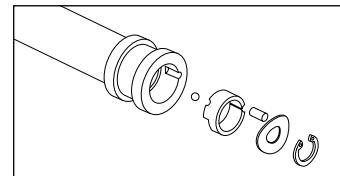

Fig. 3
- Carefully remove the index plate, wavy washer, index pin and index ball. The index ball is located underneath the index plate (Fig 3). Take care not to lose the index ball, it is small and can be lost easily.